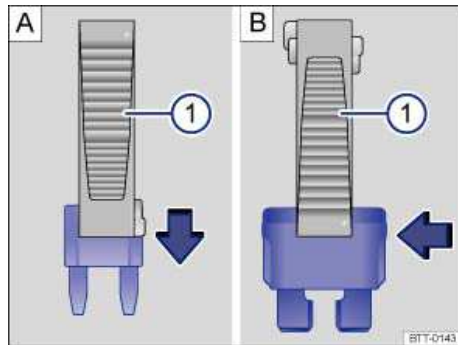

Fig. 171 Removing or installing a blade fuse with the plastic tweezers: A: MINI. B: ATO.
- *For blade fuses:* Depending on the type of fuse, slide the tweezers ⇒ fig. 171 A \(1\) or B \(1\) onto the fuse in the direction of the arrow.